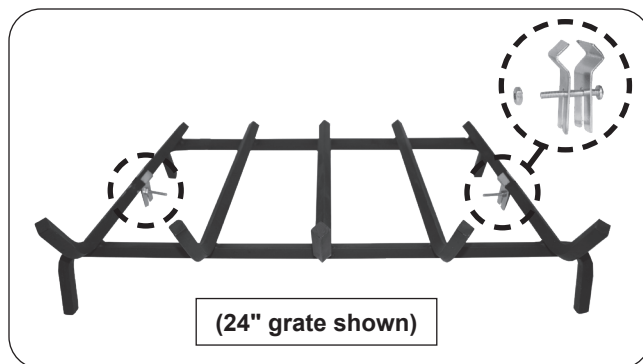

Fig. 11-1 Attach stabilizer clips to grate
1. Locate the grate (outside of the fireplace) and attach the stabilizer clips to the 2 outer bars of the grate using the provided screws and nuts (see Fig. 11-1 and Fig. 11-3).
The stabilizer clips should be positioned toward the middle of the outer bars and oriented as shown in Fig. 11-1. Tighten the clips in place.